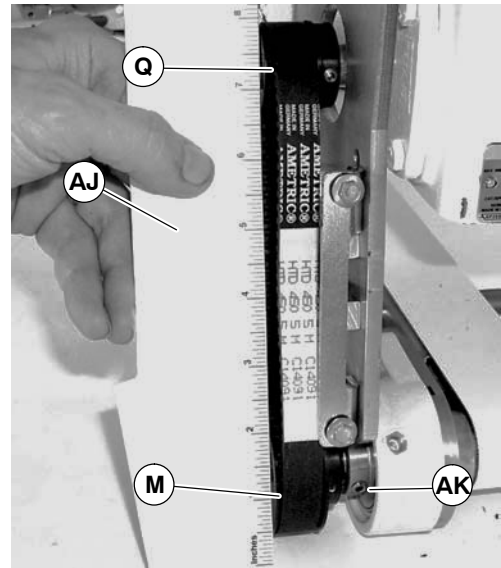

Figure 10
4. Using a straight edge (AJ of Figure 10), align driven pulley (M) with drive pulley (Q). Tighten two driven pulley set screws (AK).